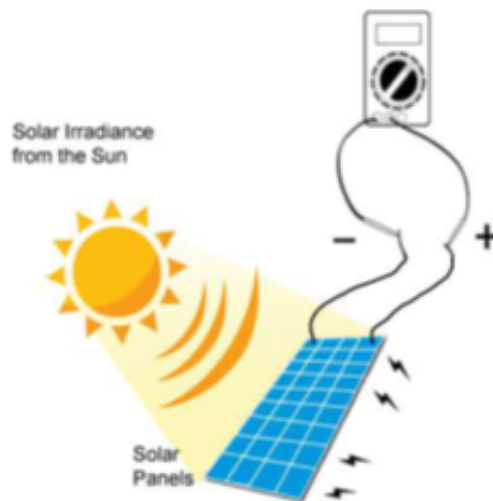

Figure 2.3 : Solar panel diagram exposed to sun / light source. [1]
1. Attach the wire or two electrical leads with an alligator clip to a solar cell and connect the red probe of the multimeter with the positive terminal of the solar cell while the black probe of multimeter will connect to the negative terminal of the solar cell as in Figure 2.3.
5. Expose the solar cell directly under the sun or shine a light source as Figure 2.3.